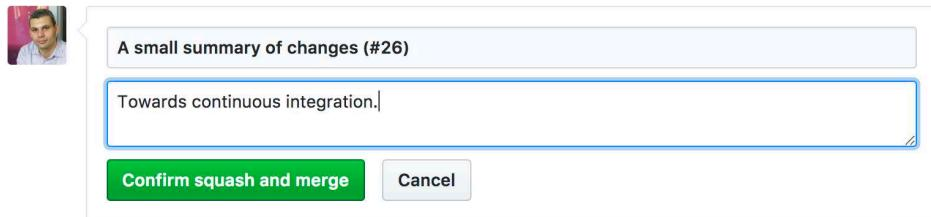

Figure 11.8. The final step
(7) At this point, you can click “squash and merge” to merge the changes into master (Figure 11.8).